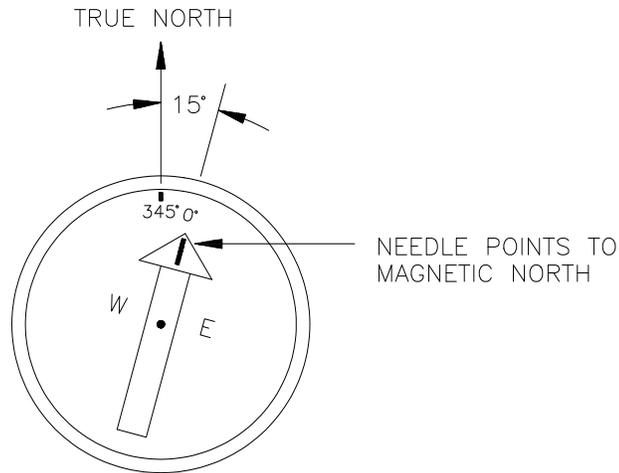

FIGURE 7.3-2. A declination angle east of True North (positive) is subtracted from 360 (0) degrees to find True North
Declination angles are always subtracted from the compass reading to find True North. A declination angle east of True North is reported as positive a value and is subtracted from 360 (0) degrees to find True North as shown Figure 7.3-2. A declination angle west of True North is reported as a negative value and is also subtracted from 0 (360) degrees to find True North as shown